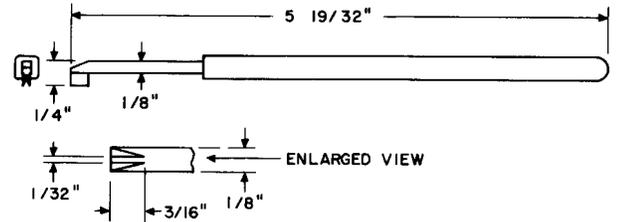

Fig. 11—259 Adjuster Tool
2.11 **259:** The 259 tool (Fig. 11) is a spring adjuster used to adjust the tension of relay springs. The 259 tool replaces the 142 tool.